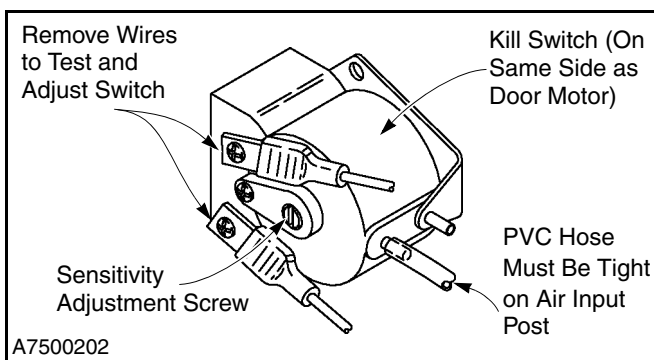

Figure 31
1. Remove the wires from the contact terminals and attach an ohmmeter across the two terminals. (See Figure 31.)